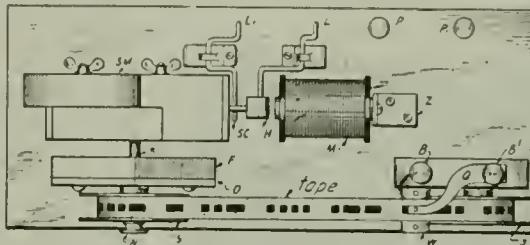

Fig. 1
I present herewith design of an automatic tape transmitter that I constructed and which runs very well. Details: Motor—This is an alarm clock which had "given up its ghost." I pulled it out of its case, removed the balance wheel, hair spring and the little lever—whatever its name is—and also the ratchet wheel, which I kept. I also removed the face, both hands and the driving mechanism for the hour hand. I then drove on the minute hand shaft a block of wood 2 inches by 2 inches by  $\frac{1}{2}$  inch, so that the shaft did not come quite thru the block (Fig. 1). On F I screwed a block of thin wood 2 inches by 2 inches with an 8/32 bolt 1 inch long thru the center of it, and a nut on the bolt (Fig. 1, K); on this bolt I put an empty typewriter spool, S, which I held on by bolt and nut (Fig. 1, N). Light spools for the purpose can easily be made up by the experimenter from fibre and brass odds and ends.
**Transmitter**—On the base I fastened (Fig. 1, X) a wooden upright  $2\frac{1}{2}$  inches by  $2\frac{1}{2}$  inches by  $\frac{1}{2}$ -inch in line with (Fig. 1, F). The peg, W, covered with copper sheet, Cn, is inserted in a hole in the wood; in W are inserted two small brads to keep the paper tape in proper alignment. Cu is connected to B and a fine brass brush, Q, bears on the tape and connects with Cu when an opening appears. S is another typewriter ribbon spool running on a headless wire nail.
hits on Sc, Fig. 1, which is a wire held in a spring binding post so it can be regulated. This regulator and the cut ratchet wheel are used to keep the spring motor from running away with itself.